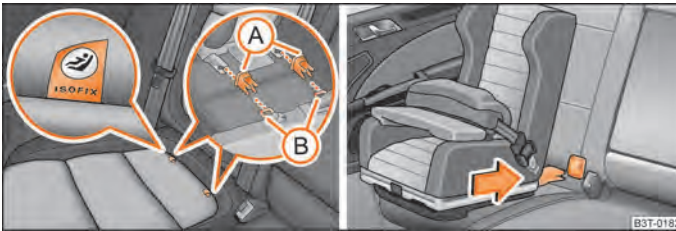

Fig. 159 Locking eyes (ISOFIX system)/the ISOFIX child seat is pushed into the mounting funnels
There are two fixing eyes between the backrest and the seat of the front passenger as well as on the rear exterior seats for fixing the "ISOFIX" system child seat in place. On seats where the fixing eyes are not visible, the places which have eyes are marked with signs with the "ISOFIX" logo → fig. 159 - left.
- Insert the mounting funnels (A) → fig. 159 onto the locking eyes (B) between the seat backrest and the seat cushion.
- Push the notched arms of the child seat into the locking eyes until they are heard to lock in place → fig. 159 - right.